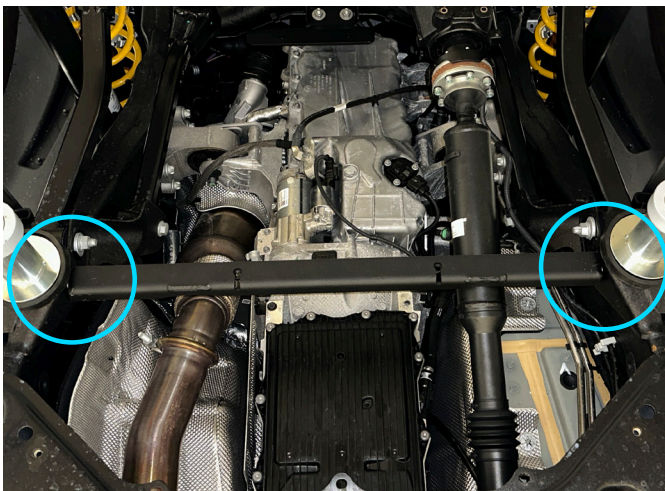

Fig. 3
3. Secure crossmember (item 2) using bolts M10x150 (item A), washers M10 (item E), spacers (items D or G), nuts M10 (item F) as shown in fig. 3 and 4.